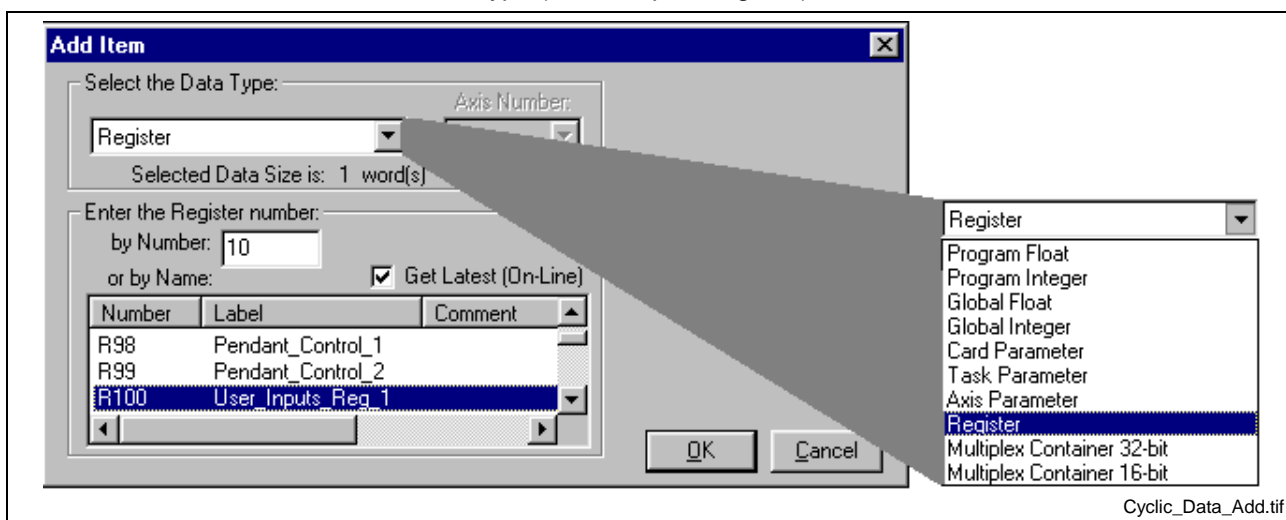

Fig. 7-12: Add Item to Cyclic Data
2. Click Add. The screen in *Fig. 7-12* below appears. Select the Data Type (for example, Register).